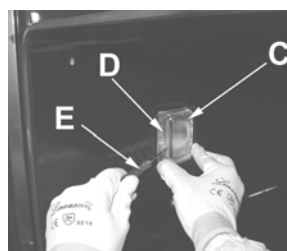
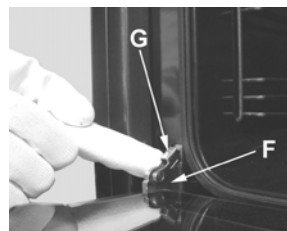

Fig. 2
Fig. 3
- A. Between two side panels of two distinct cabinet units without the aid of a support shelf, by fitting four support steel brackets provided with the product. (fig. 3).
**Note:** In both of the above cases you must measure 717 mm from the underside of the worktop and mark the correct position of the lower support brackets before fixing them to the sides. With reference to (fig. 3), ensure the side support brackets are positioned 40 mm from the front of the cabinet door exterior surface, as illustrated, before securing them to the cabinet sides. If necessary, this product can be installed in a housing unit (fig. 2). The housing unit will not be a standard one but will have to be of a size that can accommodate the full height of the oven - minimum height 717 mm. This housing unit will need to fulfil the ventilation requirements.
Change the lamp **D** (fig. 2).
Refit the glass cover, pressing it slightly (fig. 2).
Remember to rotate the two movable bolts **G** used to hook the two hinges before closing the door (fig. 3).